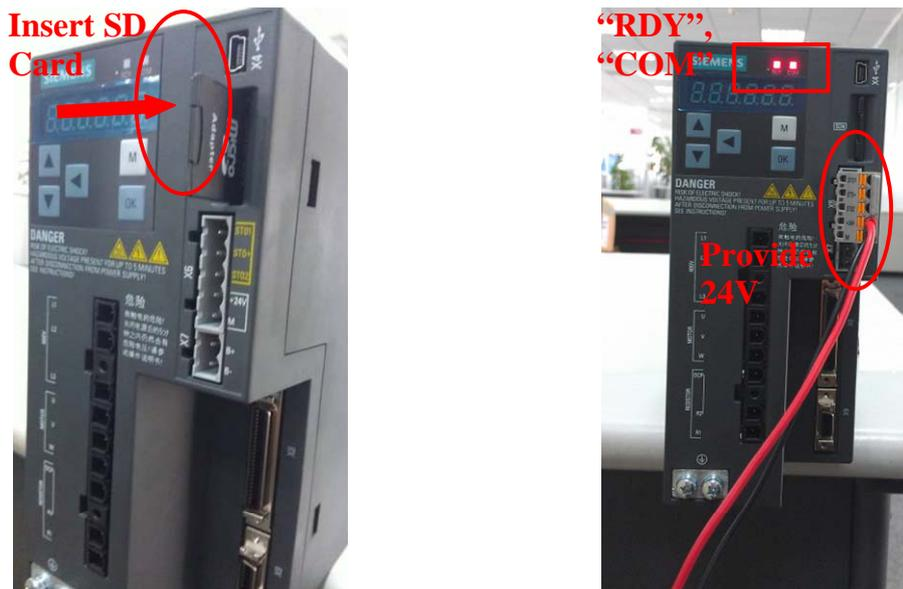

Figure 3 Insert the SD card and provide the 24V
- Plug SD card into the SD card slot on V90 drive, and then power on 24 VDC supply of V90 as figure 3.